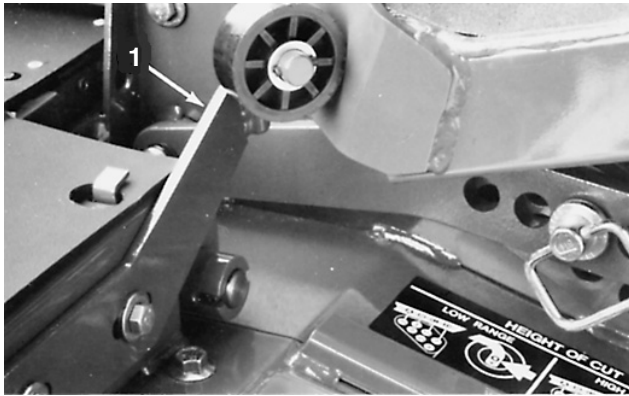

Figure 75
- Loosen capscrews securing winglet stabilizer brackets to deck and move brackets outward (Fig. 75).